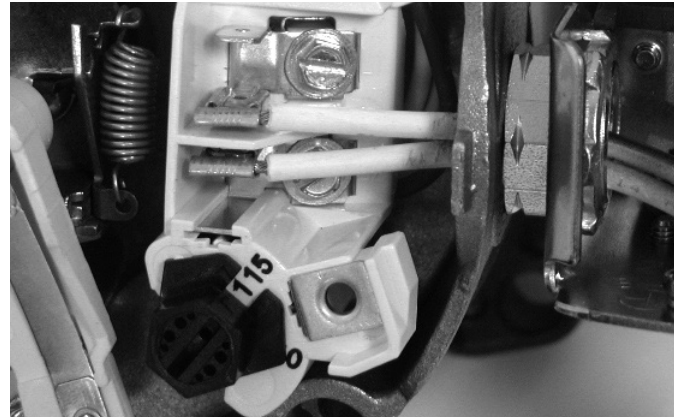

Figure 17 - Voltage set to 115 V, Dial Type
2. Turn the dial counter-clockwise until 115 shows in the dial window as shown in Figure 17.